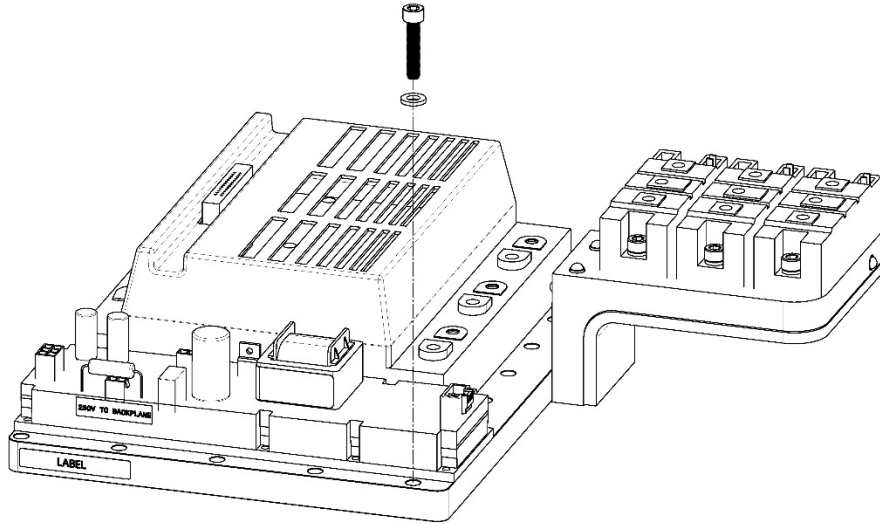

Figure 19 – Inverter Removal
34. Remove and discard the fasteners that secure the Inverter to the compressor main housing. Refer to Figure 19 (Inverter Removal).
35. Carefully, remove the Inverter assembly. The Inverter assembly and the two (2) O-rings underneath will not be reused.